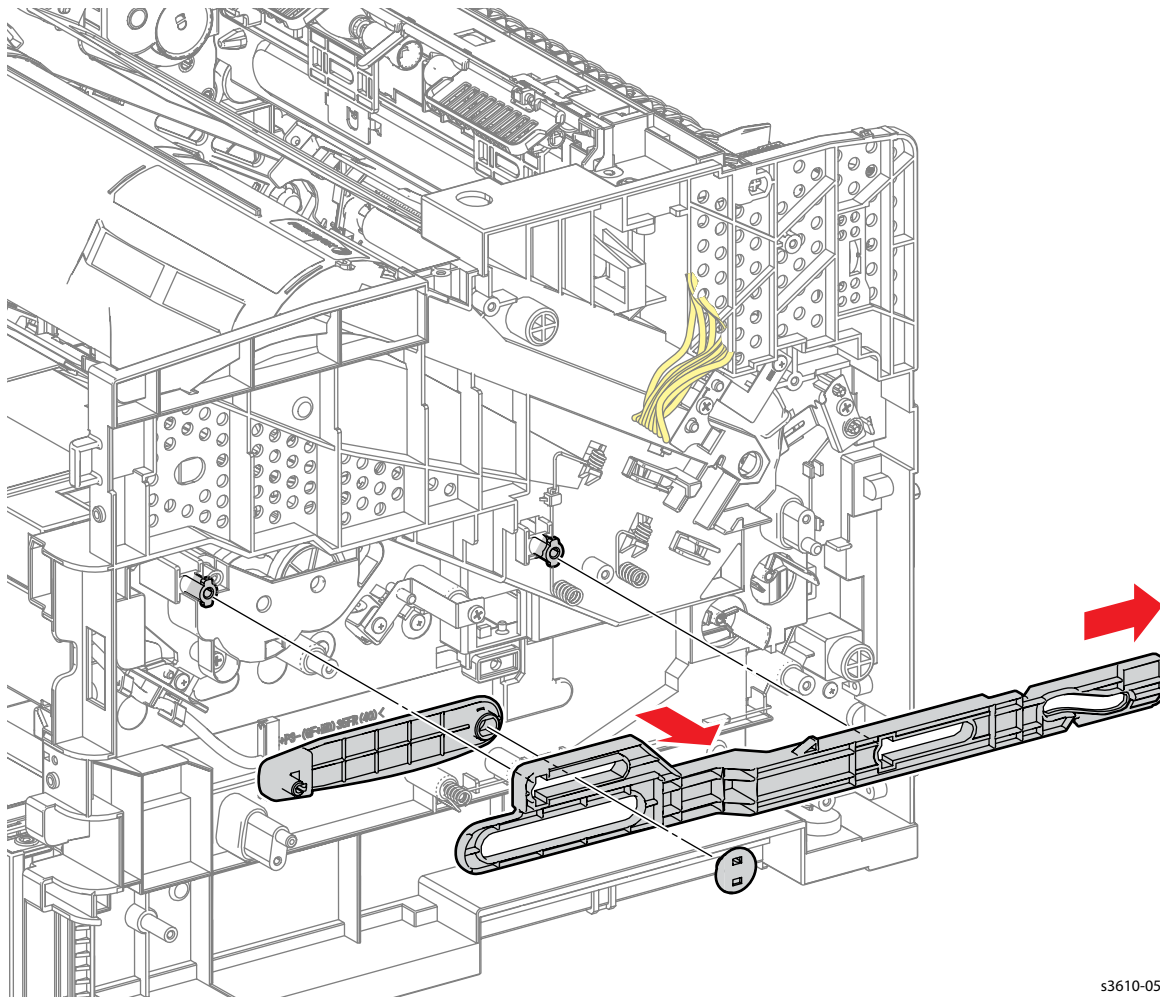

Figure 1
3. Release the Link Connector clips from the link shaft to remove the Front Link. (Figure 1)